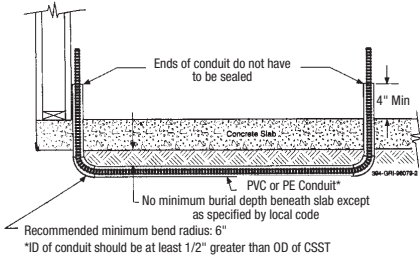
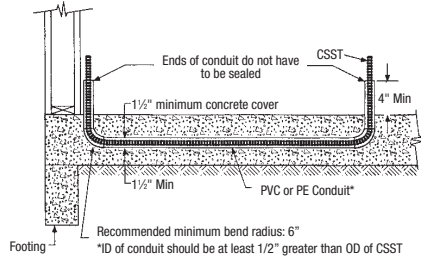

Figure 4.8 Installation in Non-Metallic Conduit Under Slab
Figure 4.9 Installation in Non-Metallic Conduit In Slab
1/2" larger than the outer diameter (OD) of the CSST tubing. Fittings and joints are not permissible in such runs—the run must be one unbroken line of tubing. Runs underneath slabs must be sleeved and vented per local codes. (See Figure 4.8 and Figure 4.9)